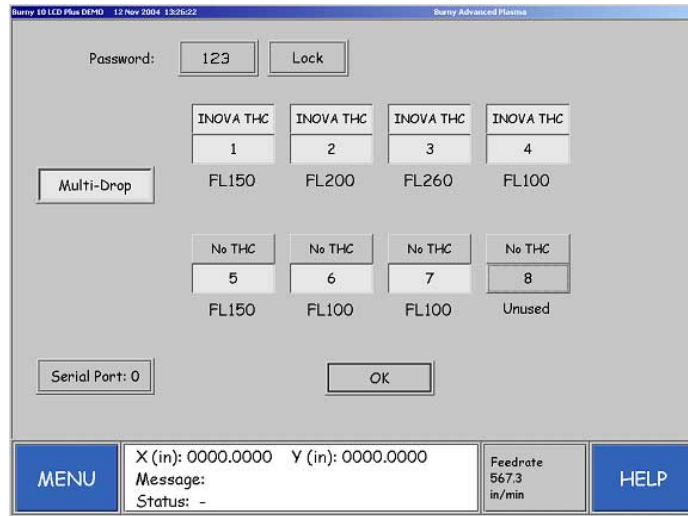

Figure 5 - Configured Add/Remove Power Supply and Torch Height Control Screen
4. Press on the **"0"** button then, enter the Admin password using the displayed number keypad. Press **OK**. Refer to Figure 5.
6. Press on the **Node number** button to toggle through the available Kaliburn power supply choices. Refer to Figure 5.